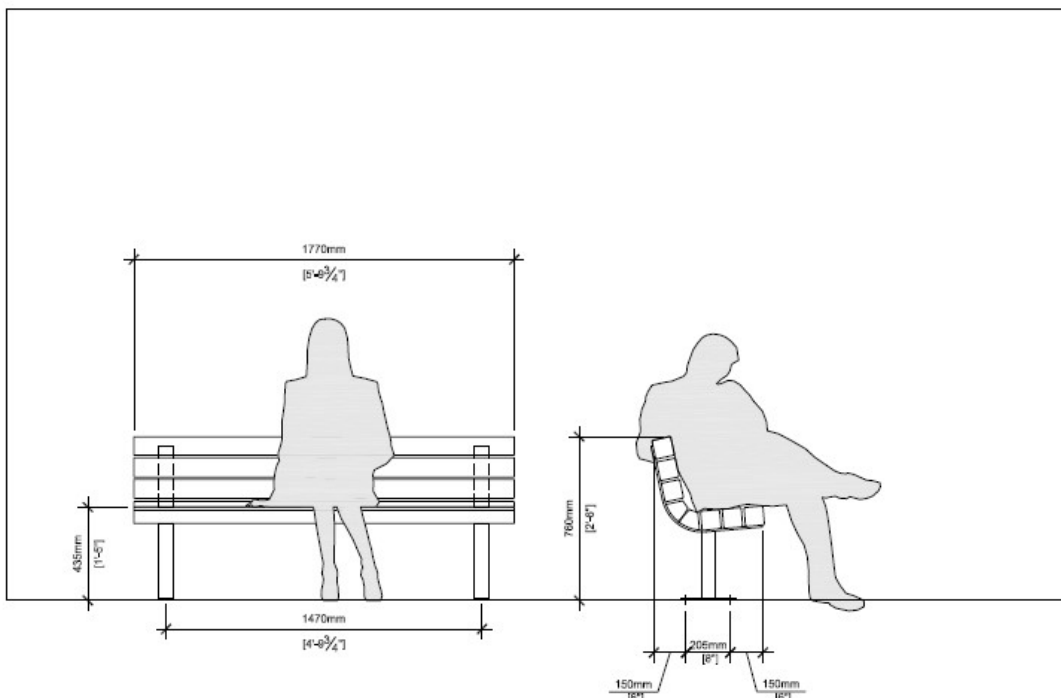

Figure 32 30 00-1
- i. Refer to Figure 32 30 00-1 following this section for exterior Landscape bench design.